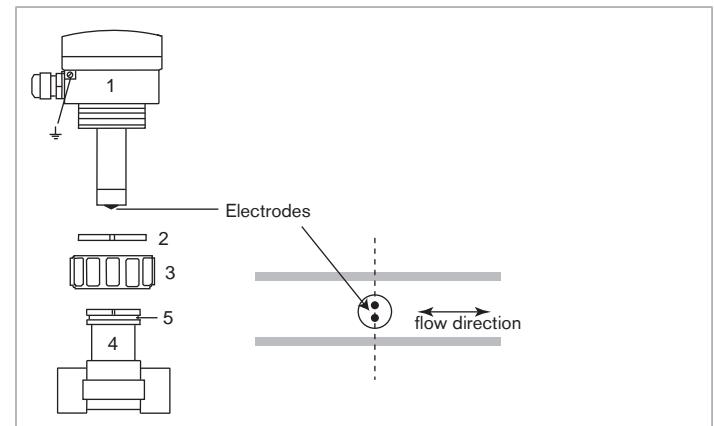

Fig. 11 : Installation of the transmitter in the pipe
- Insert the nut (see reference 3 Fig. 11) on the fitting.
- Clip the ring (reference 2 Fig. 11) into the groove (reference 5 Fig. 11).
- Insert the transmitter (reference 1 Fig. 11) into the fitting, with the cable glands parallel to the pipe.
- Tighten the nut (reference 3 Fig. 11) on the transmitter by hand.